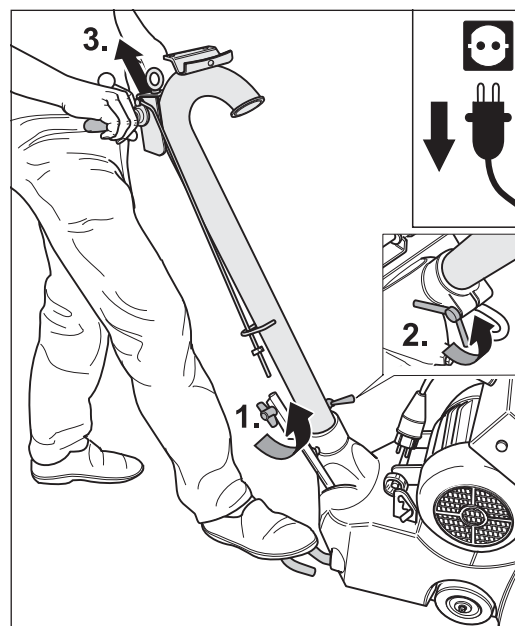

Fig. 48 After opening the wing screw (1.) and wing nut (2.) which fasten the rod linkage, the guide tube can be drawn out of the machine housing (3.).
- 11 Open the wing screw at the lower rod (Fig. 48, 1.) and the wing nut at the machine housing (Fig. 48, 2.)
- 12 Pull the guide tube out of the machine housing (Fig. 48, 3.).